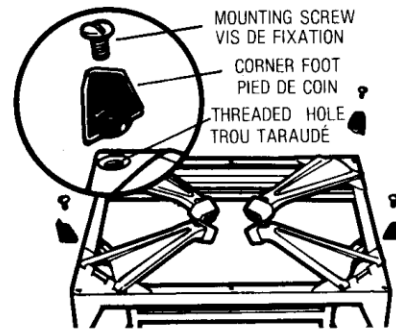
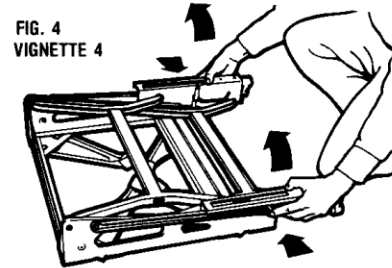

FIG. 2
FIG. 3
Assemble the four (4) corner feet using the mounting screws provided as shown in Figure 2.
Place the base and vise bracket assembly on the floor as shown in Figure 2. Extend base legs and push the rubber feet onto the legs with the thick section towards the outside as shown in Figure 3. If necessary, a light tap with a hammer will seat the rubber foot.